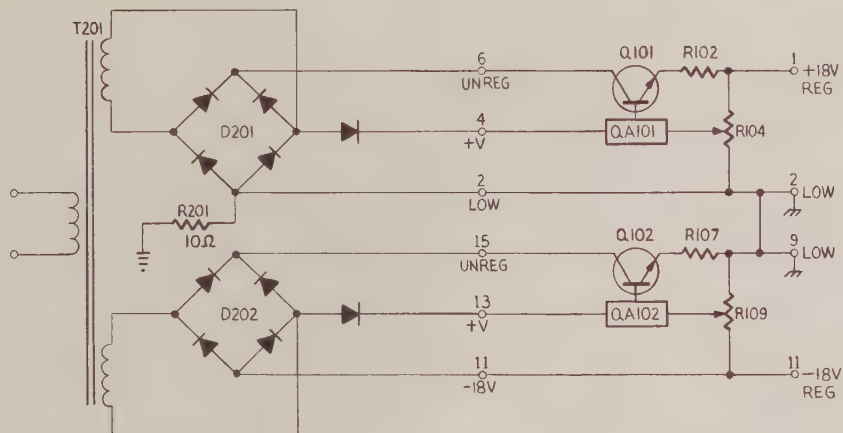

FIGURE 27. $\pm 18\text{v}$ Power Supply.
b. **Regulator Board.** The +18V regulators are composed of identical components. The regulators are connected as shown in Figure 27.